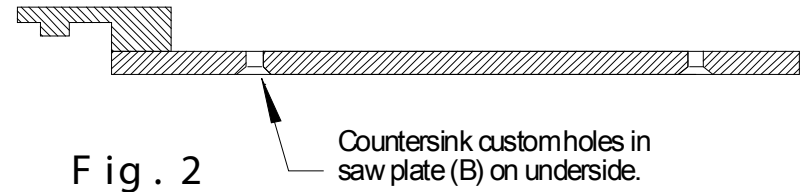

Fig. 2
2. Position saw on saw plate (B) so as to allow proper operation of blade shield (D). It will be necessary in the final step to cut down through leading edge of the saw plate (B). This is acceptable and actually reduces splintering when making cuts.
3. Determine if existing holes in plate (B) and any pre-drilled holes in the saw base (A) align or are usable for your particular application. It will likely be necessary to drill holes in the saw base (A). It may also be necessary to drill and countersink matching holes in saw plate (B).
4. Attach your AIO Straight Edge Clamp to a piece of scrap. Place saw plate slider (C) in clamp channel and position saw as determined in step 2. In one corner, drill down through saw base (A) and saw plate (B) into scrap. Countersink hole from underside of saw plate (B), see Fig. 2, and attach saw plate to saw base with one screw.